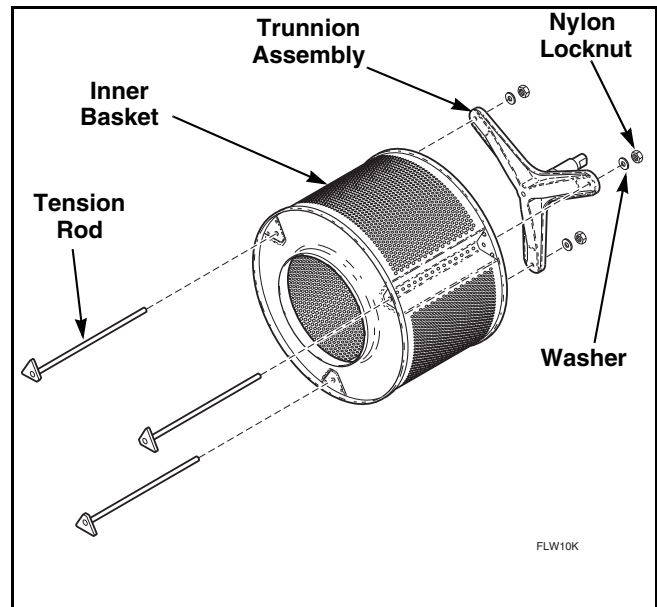
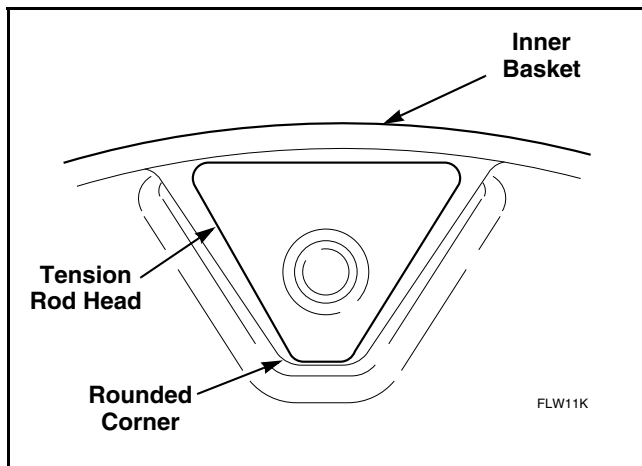

Figure 69
Figure 70
- Remove nuts, washers and tension rods holding trunnion to inner basket. Refer to *Figure 69*.
- Insert tension rods into inner basket. Refer to *Figure 69*. Position each rod so the rounded corner of triangular head faces the center of inner basket. Refer to *Figure 70*.